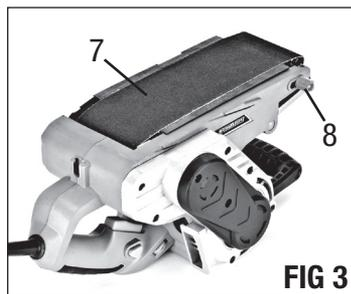

FIG 3
ADJUSTING BELT TRACKING (FIG 3)
2. Place the tool upside down with sanding belt up, as shown in FIG 3.
3. Hold the tool firmly with your left hand, depress the switch trigger and watch how the belt (7) is tracking.
4. If the belt is running outward, slowly rotate the tracking knob (8) forward (clockwise) until the outer belt edge is aligned with the outer edge of the platen. If the belt is running inward, slowly rotate the tracking knob backward (counterclockwise) until the outer belt edge is aligned with the outer edge of the platen.